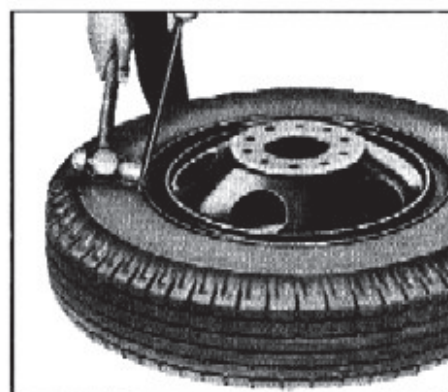

Fig. 68—Starting Side Ring Removal
4. Drive the curved end of the tire iron in between the side ring and the entire bead (fig. 68). Then pry down on the opposite end of tire iron to move the tire bead away from the side ring flange (fig. 69). Continue the foregoing operation progressively around the tire until the side ring is removed. In some cases it may be necessary to work around the tire a couple of times.